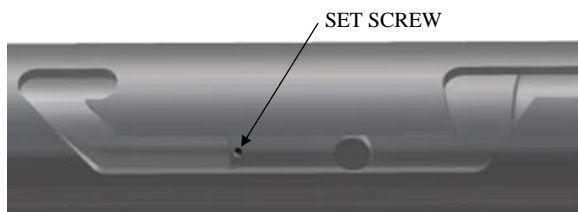

Fig. 7
K-1.16) Rotate J-body (20) as needed to position J-pin of J-pin bottom sub (23) along J-slot to access threaded holes (Fig. 7). Screw set screws (6) into J-pin bottom sub (23).